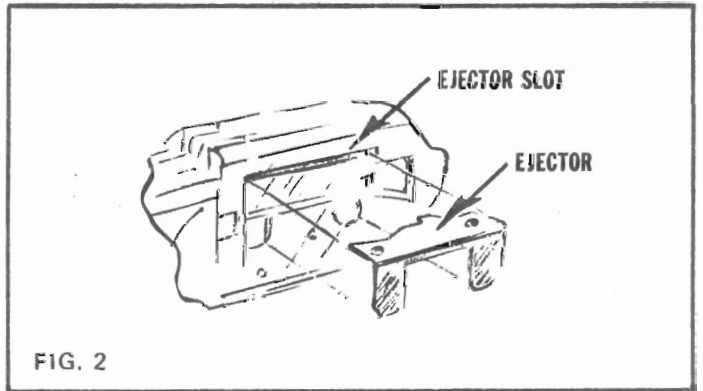

FIG. 2
**To Disassemble** — Unscrew front sight screw (2). Lift front sight from barrel. Take care that small front sight washers (2) of white nylon material, located beneath front sight screw heads, are not lost.
**To Disassemble** — Remove bolt handle and receiver cover assembly. Ejector can then be easily removed from a free-fit location in exposed left side of stock. See Fig. 2.